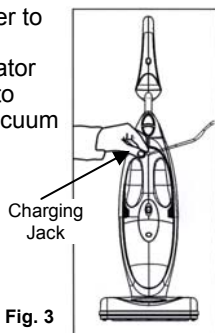

Fig. 3
2. Connect the charger to the charging jack. The charging indicator light will shine red to indicate that the vacuum cleaner is properly connected to the charger and that the unit is being charged. (Fig. 3)